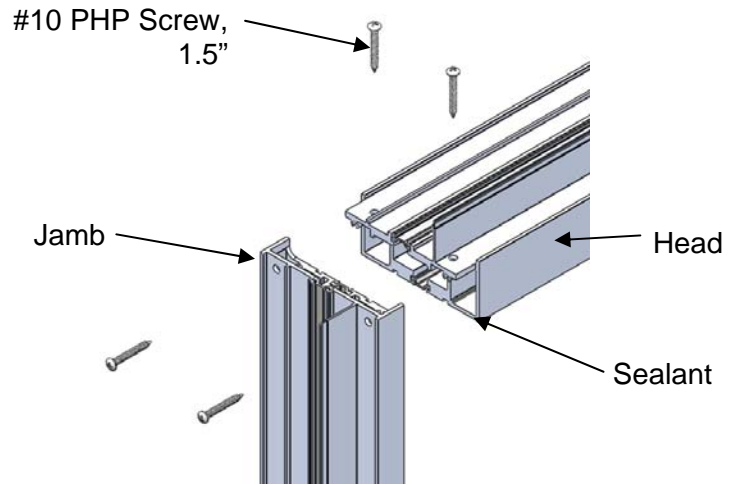

Figure 3:
- Apply a compatible sealant to the corners of the frame. Assemble the frame with screws provided (Figure 3).